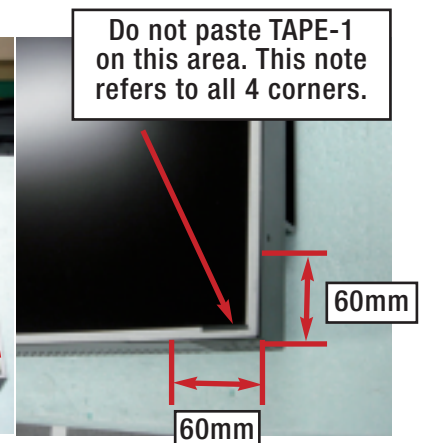

Figure 3.2
2. Do not paste TAPE-1 on the area in Fig. 3.2.